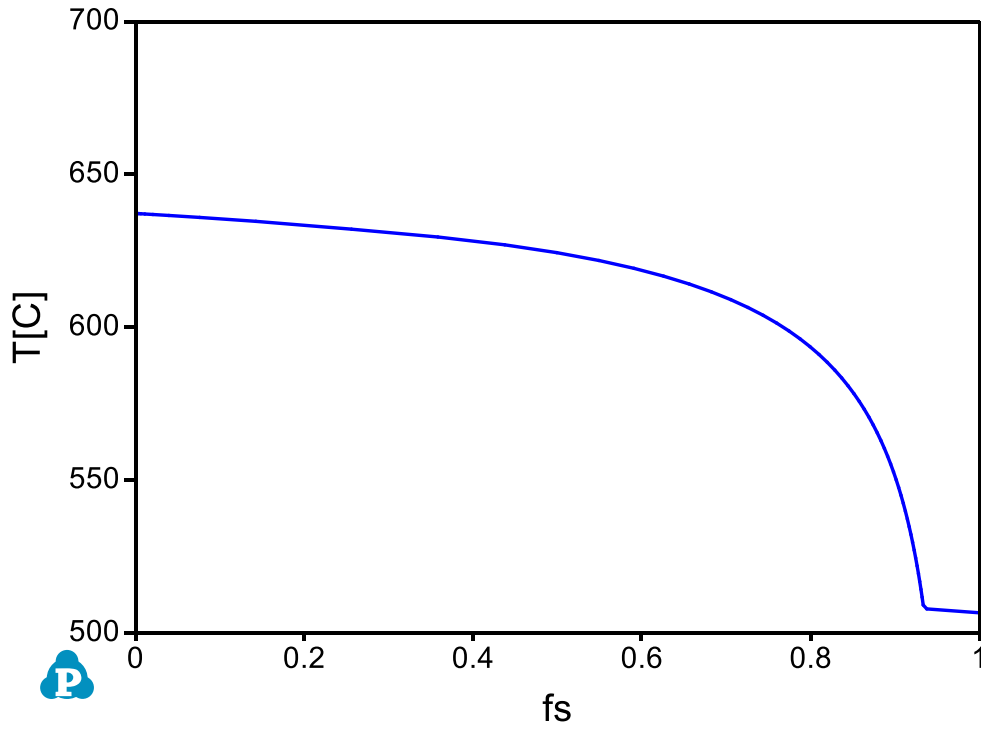

Figure 5.2.5: Default plot showing the relation between temperature and fraction of solid
- The Default plot presents the relationship of temperature vs fraction of solid (fs) during solidification as shown in Figure 5.2.5.